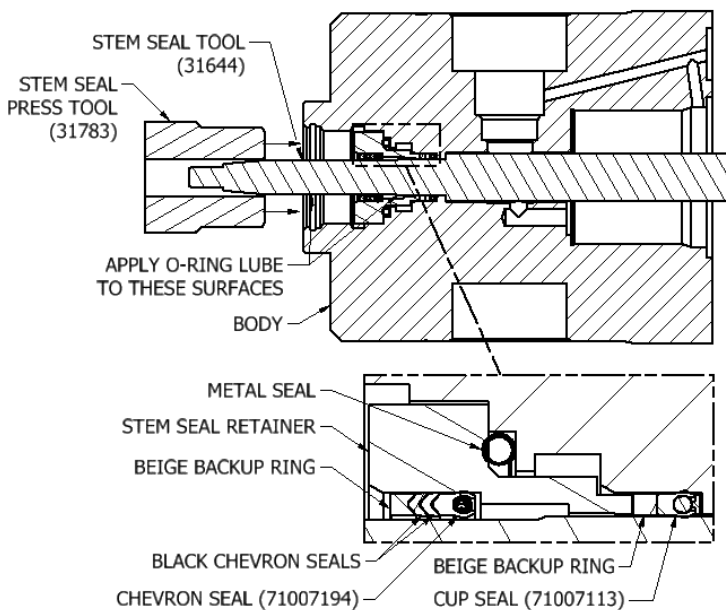
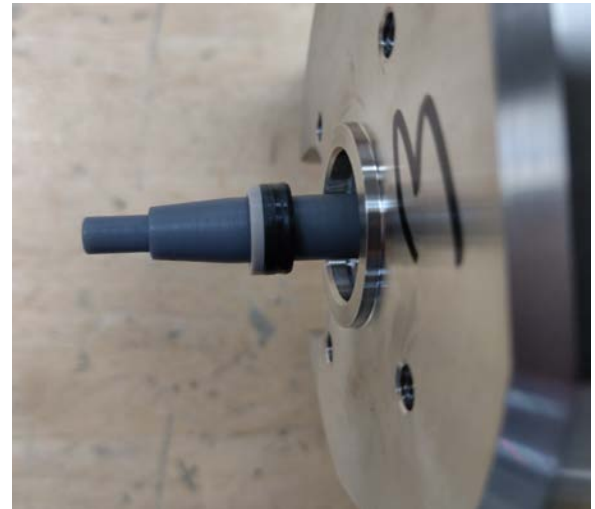
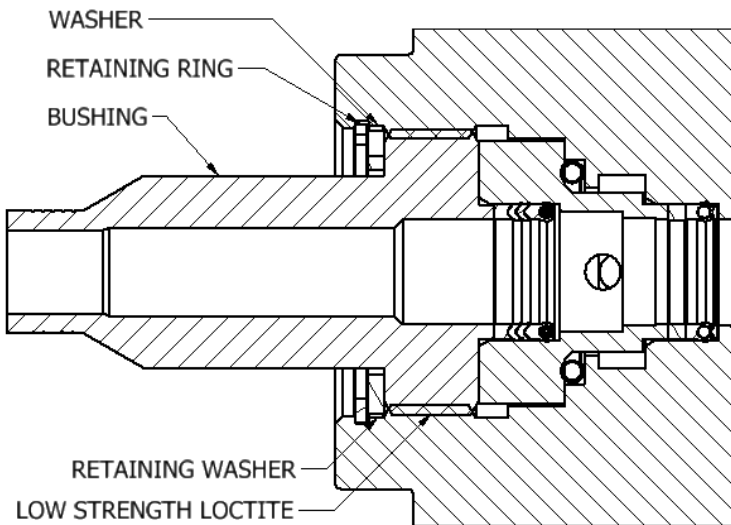

Figure 11 – Stem Seal Cross Section, Pt. 1
Figure 12 – Stem Cup Seal
Figure 14– Stem Seal Cross Section, Pt. 2
- 10.1 Apply O-ring lube to stem seal tool. See Figure 11.
- 10.4 While holding stem seal tool in place, install the new cup-seal over the stem seal tool. See Figure 11 and Figure 12 for orientation of the cup-seal.
- 10.5 Install seal retainer over stem seal tool. See Figure 11 for retainer orientation.
- 10.9 While holding stem seal tool in place, install the new chevron-seal (71007194) over the stem seal tool. See Figure 11 and Figure 14 for orientation of the chevron seal.